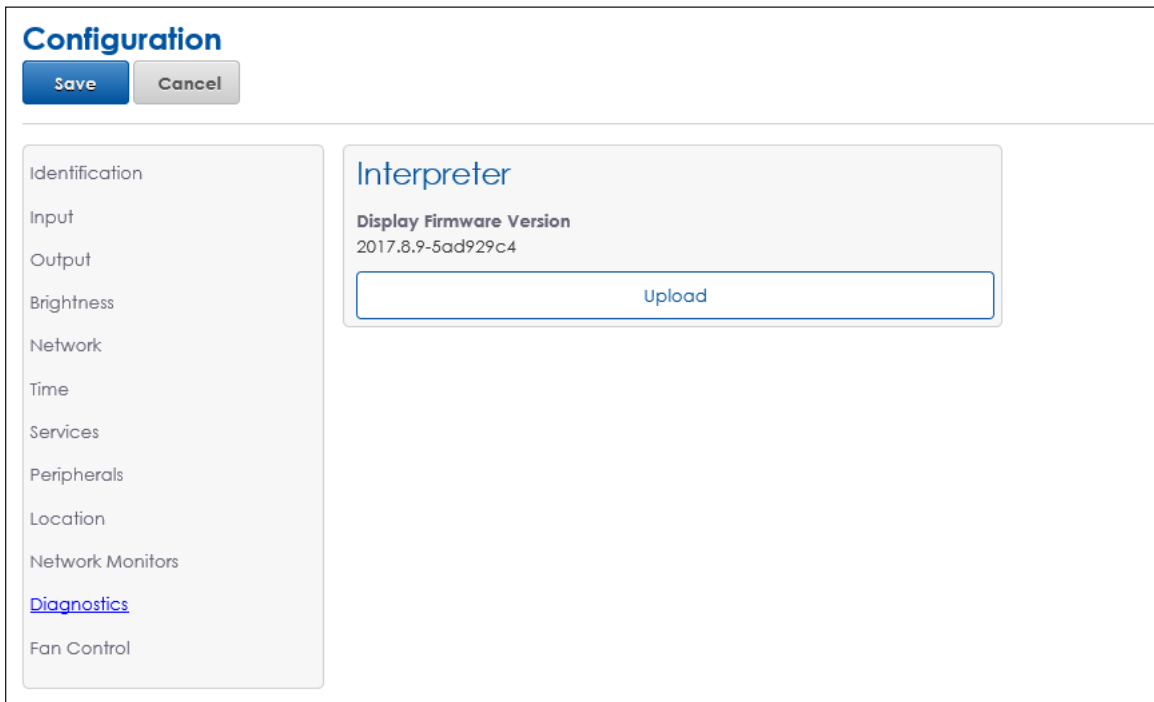

Figure 64: Configuration - Diagnostics
Diagnostics updates the diagnostic files used by the processor to return data to IDM. The current version for the diagnostic files is listed under **Display Firmware Version**. Refer to **Figure 64**.
1. Click **Upload** under the **Interpreter** section as shown in **Figure 64**. This triggers an **Open** dialog box.